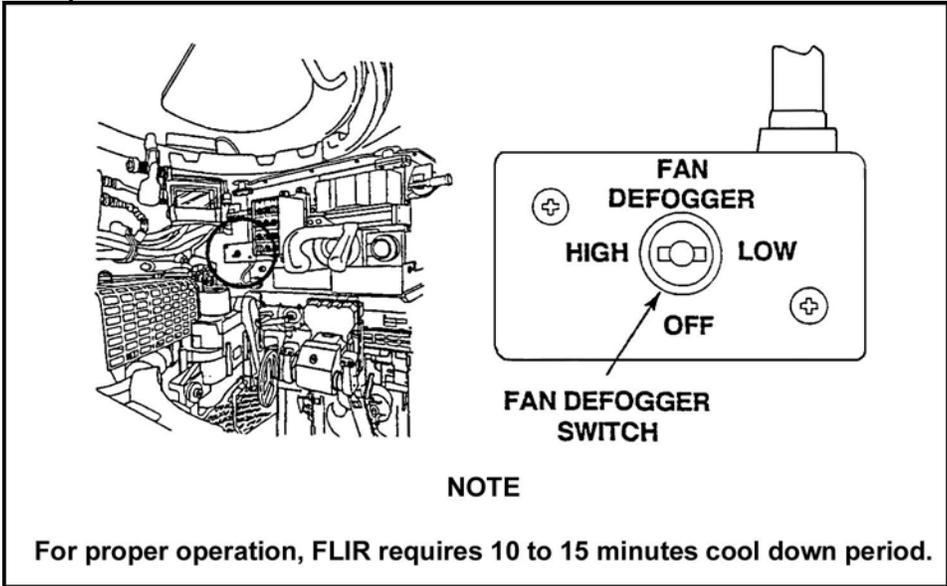

Figure 17. Defogger fan switch.
- (d) In the power mode, dry cycle the 25mm gun twice in high explosive (HE) and twice in armor piercing (AP).
- (7) During normal operating conditions, ensure the IBAS defogger fan switch is in the OFF position (Figure 17).